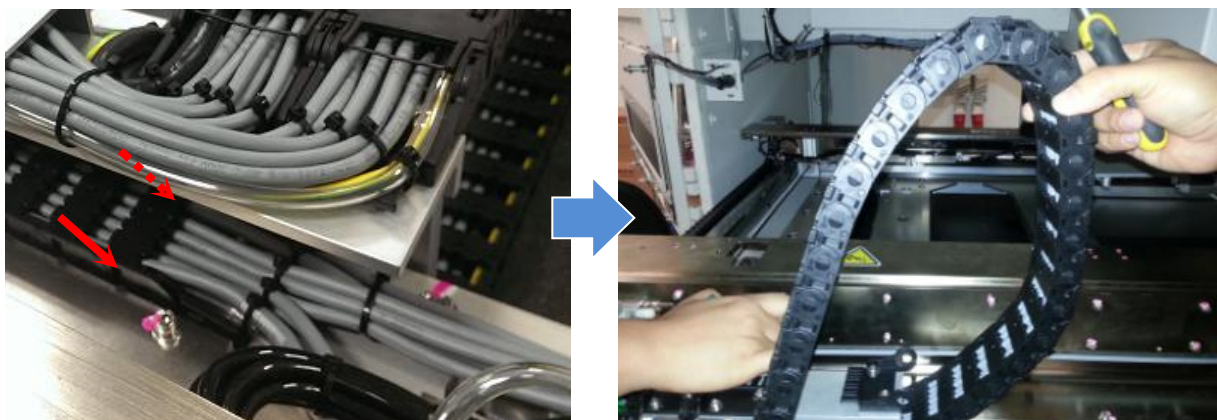

Figure 14 X Axis End Joint Removal
18. Use flat head screwdriver to open V810 S2 X-AXIS E-CHAIN (P/N, 4XAXYS-A174) end joint (top and bottom) as below Figure 14